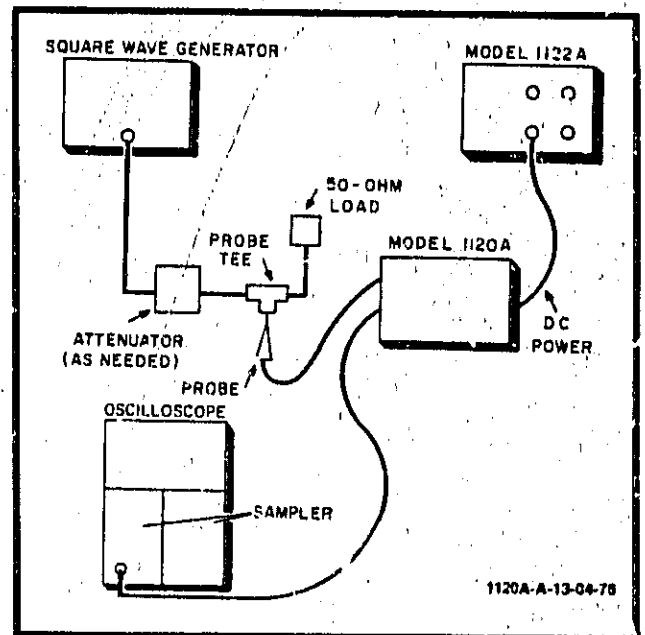

Figure 13. Noise Measurement Test Setup
30. Connect the equipment as shown in figure 13 for the Noise Measurement check.